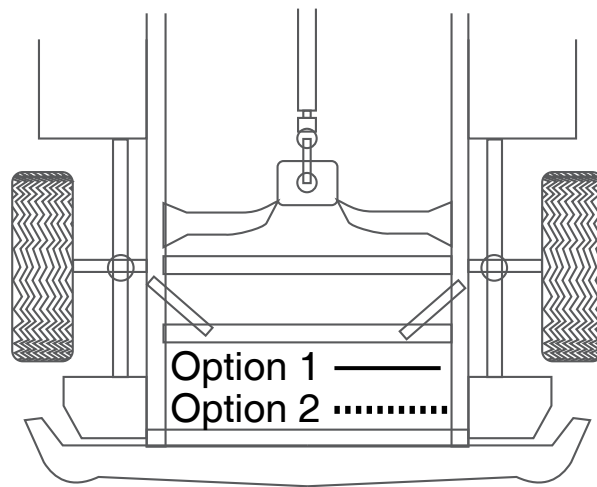

fig. 12
6. Route the air line along the frame to the air fitting on the air spring (fig. 12). Keep AT LEAST 6" of clearance between the air line and heat sources, such as the exhaust pipes, muffler, or catalytic converter. Avoid sharp bends and edges. Use the plastic tie straps to secure the air line to fixed, non-moving points along the chassis. Be sure that the tie straps are tight, but do not pinch the air line. Leave at least 2" of slack to allow for any movement that might pull on the air line (fig. 12).